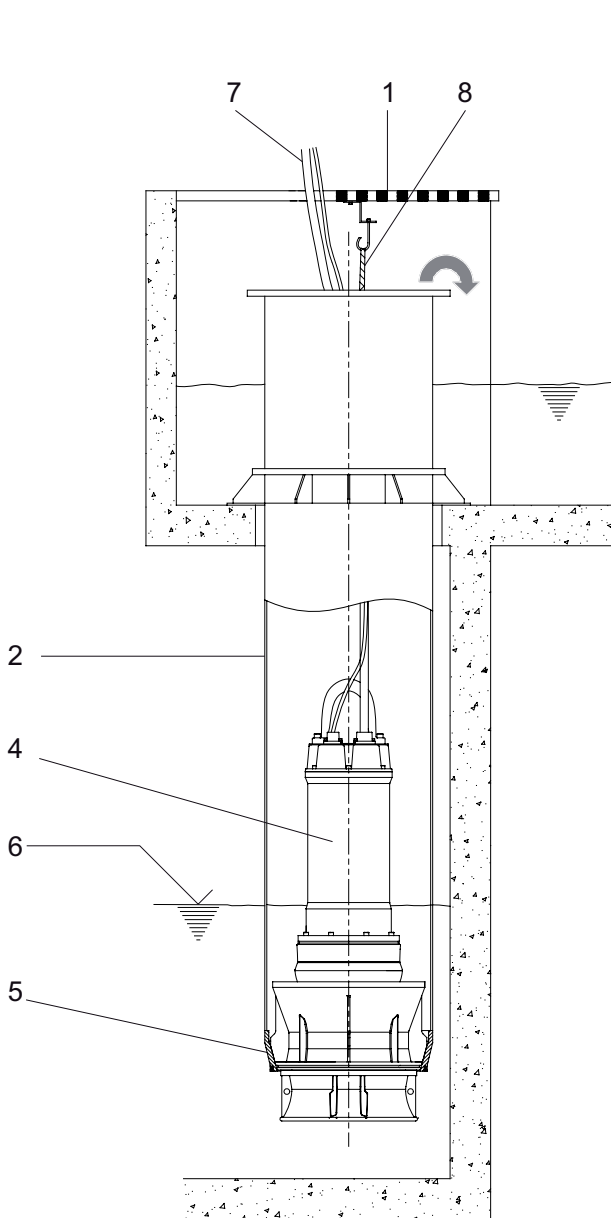

Figure 27 VUP/AFL in a steel discharge pipe
1. Installation in a steel discharge pipe in accordance with *Figure 27*
The coupling ring required for installation of the AFL-ME/VUP-ME submersible pump must already be installed as shown in *Figure 27 and 28*. Before installation of the pump a suitable support (hook) for the chain, as well as an opening and suspension (cable sock) for the cable must be provided in the sump or riser pipe.